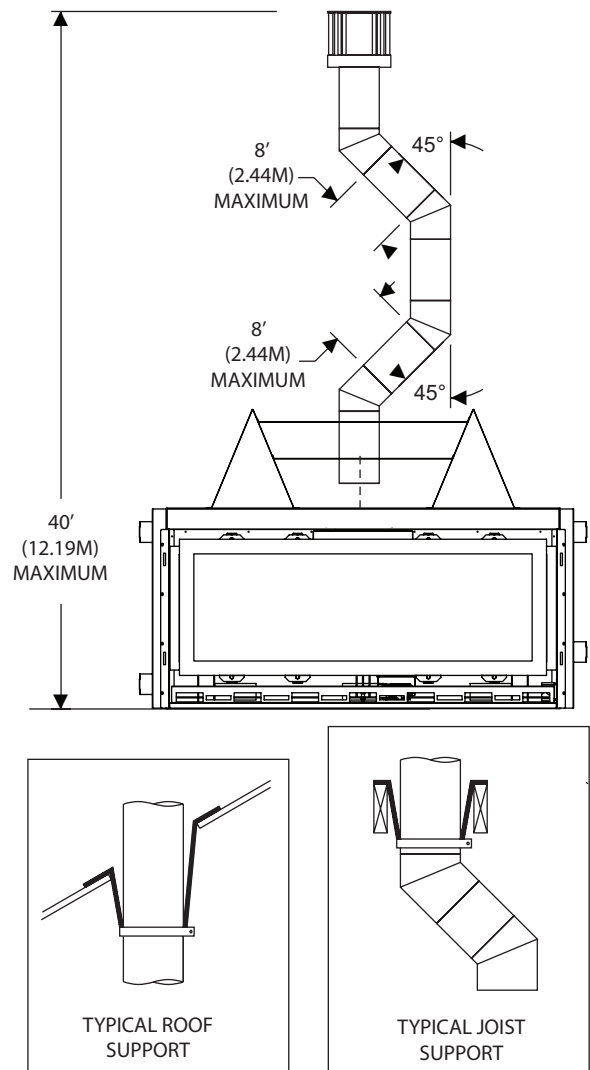

Figure 43
- b) Two sets of 45 degree elbow offsets within these vertical installations. From 0 to a maximum of 8 ft. a vent pipe can be used between elbows. **See Figure 43.**